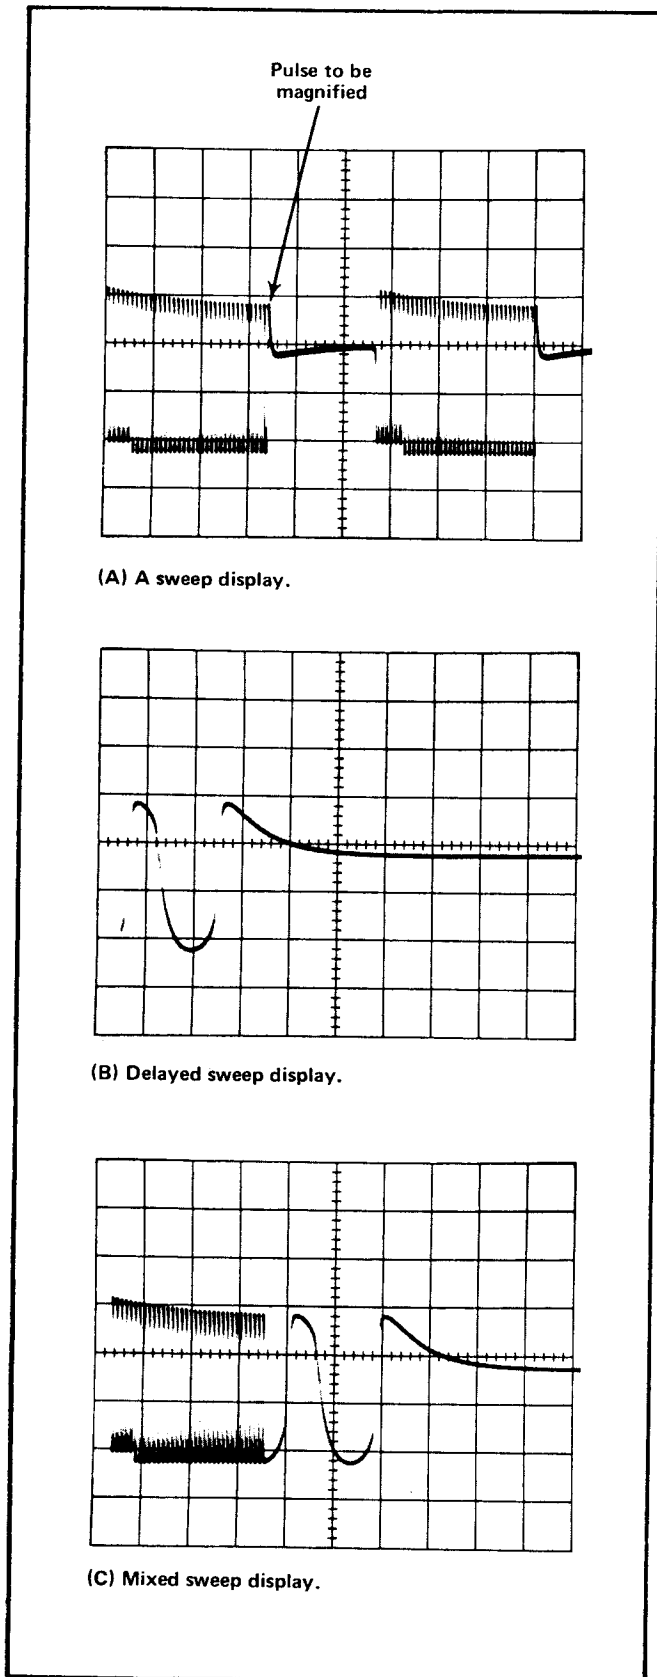

Fig. 2-25. Using delayed sweep for sweep magnification.
**Example.** The apparent magnification of the display shown in Fig. 2-25 with an A TIME/DIV switch setting of .1 ms and a B TIME/DIV switch setting of 1  $\mu$ s is: